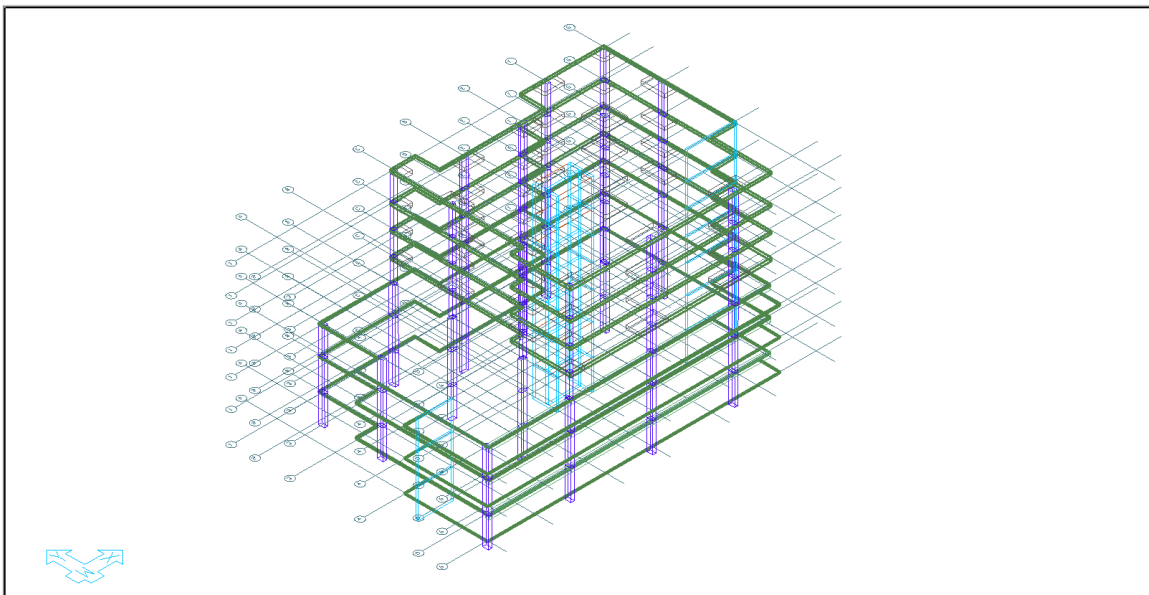

FIGURE 7-1
- Click on the **Top Front-Right View**  icon on the *Bottom Quick Access* toolbar. The user should now see the view as shown in **FIGURE 7-1**.